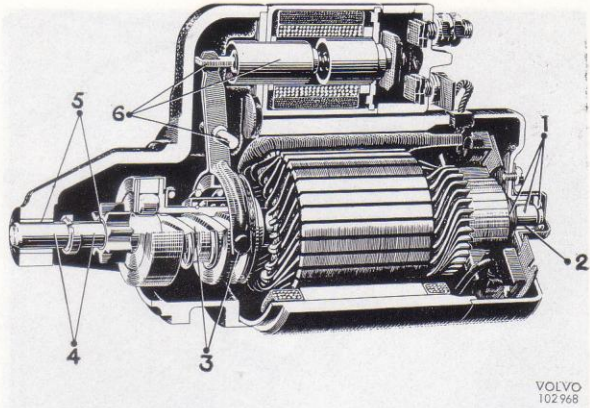

Fig. 96. Lubricating scheme for starter motor
2. Fit the starter pinion on the rotor shaft, then the washers and circlip as shown in Fig. 80. Lubricate the rotor shaft according to the instructions given under Fig. 96.
1. Lubricate the starter motor parts according to Fig. 96.